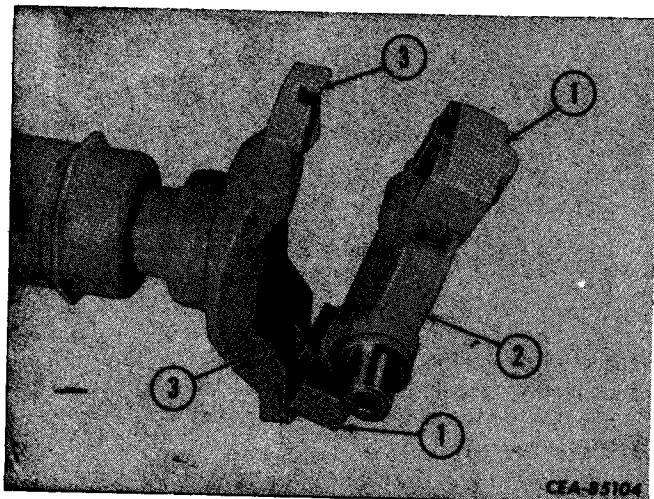

Figure 5-10
Install two opposite bearing assemblies (1, Fig. 5-10) on spider (2). Install spider assembly in yoke by inserting the lug on bearing cap into groove in yoke (3) as shown. Tap opposite bearing cap at an angle to seat spider and bearing assembly.